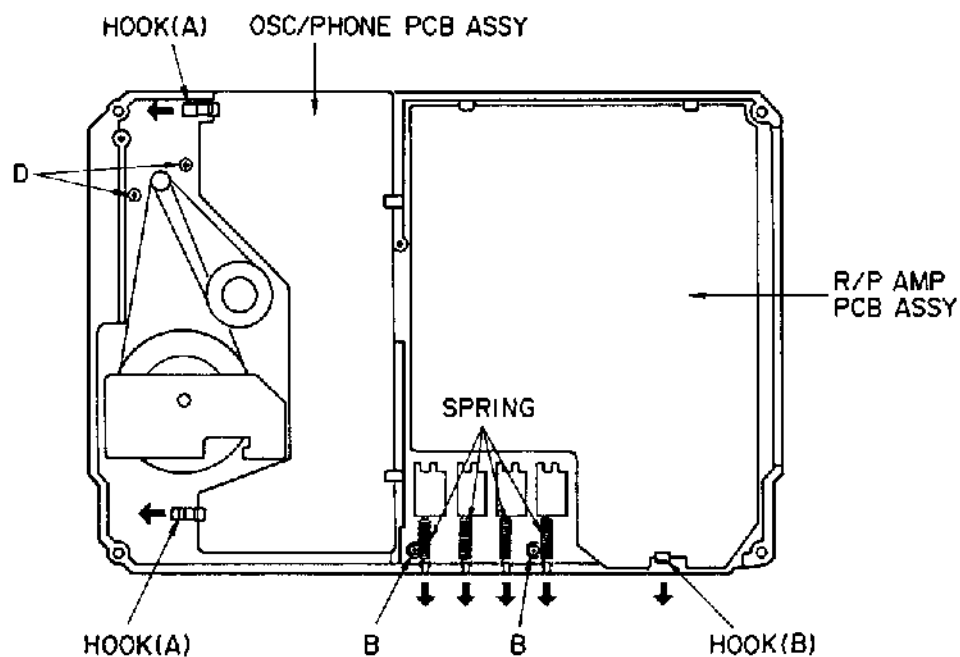
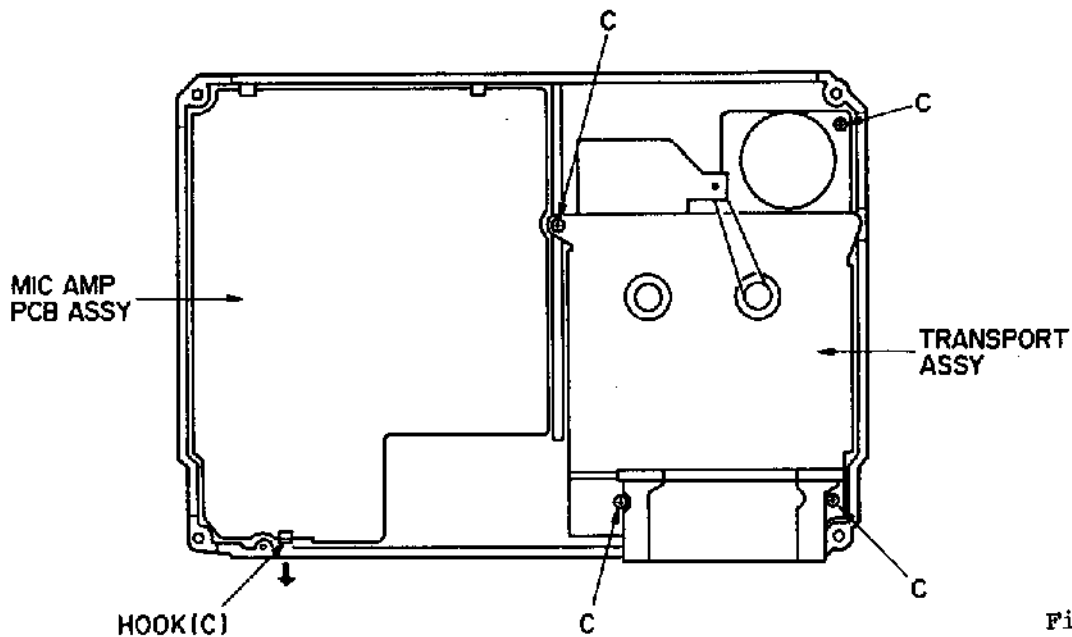

Fig. 2
Fig. 3
Referring to Fig. 2, the PCB assembly can be taken out by bending the two hooks (A) in direction of the arrows.
Referring again to Fig. 2, bend hook (B) in direction of arrow and the PCB assembly can be taken out.
Referring to Fig. 3, bend hook (C) in direction of arrow and the PCB assembly can be taken out.
Referring to Fig. 2, remove the four coiled springs and two screws (B). Then, referring to Fig. 3, unscrew the four screws (C) and the transport can be lifted out.
The capstan motor can be replaced by removing two screws D, shown in Fig. 2.